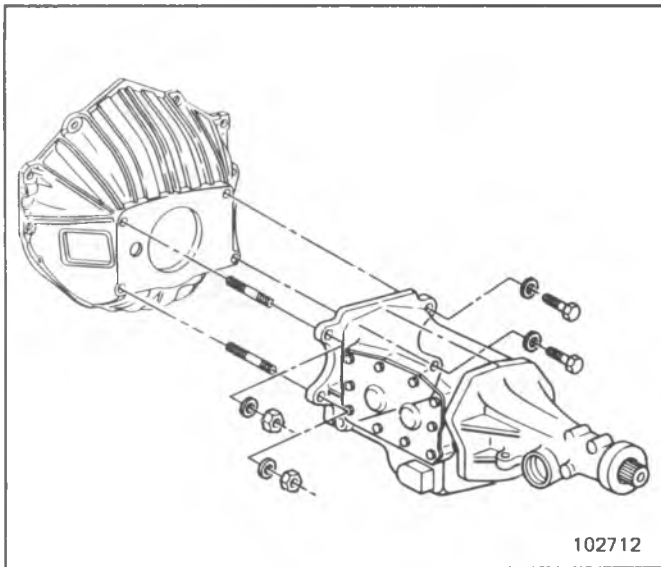

Fig. 7B3-1—Transmission To Engine Attachment
TRANSMISSION (Fig. 7B3-1)
9. Move the transmission assembly straight away from the engine, using care to keep the transmission main drive gear shaft in alignment with the clutch disc hub. Refer to Fig. 7B3-1.